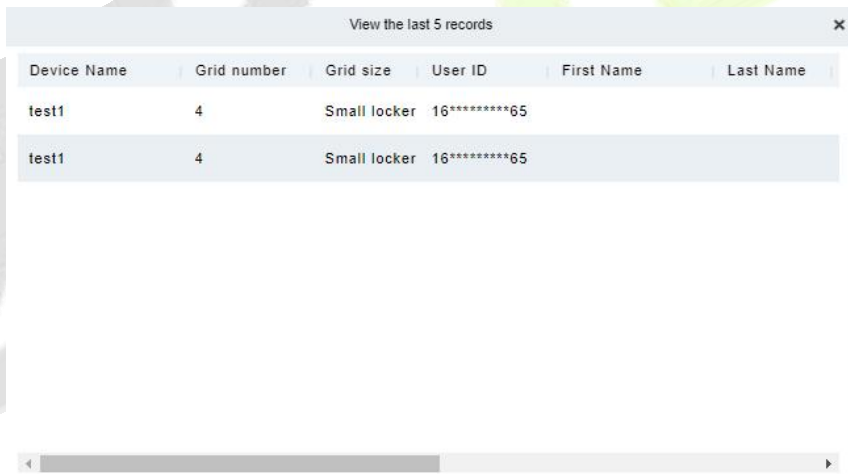

Figure 1-10 Visual Panel Interface
Step 2: On the linkage setting screen, click **Add**, as shown in Figure 1-10. Table 2 and Table 3 refer to the linkage parameters.